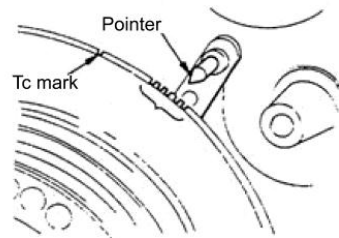

Fig.1.18
4) While charging pump transmit fuel, it turn the crank shaft clockwise , when the fuel lever of drain valve bracket up to the stop position, stop turning the crank shaft. Affirm the hand sign. See Fig 1.18.